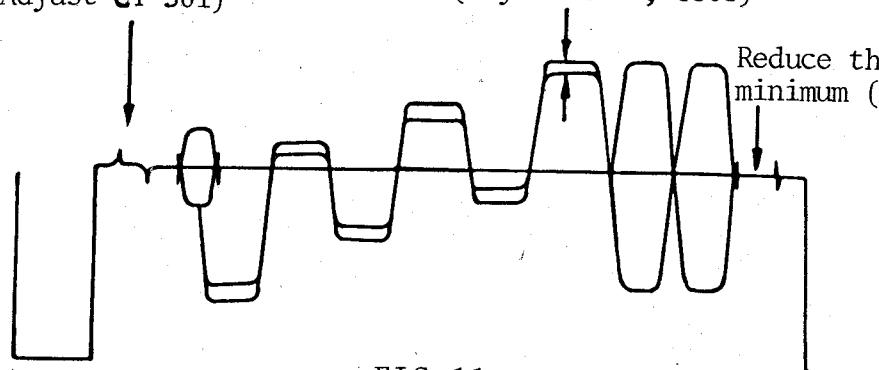

FIG.11
5. Adjust CT 301 to obtain the waveform as in FIG. 11.
6. Adjust T 302, T 303 and VR 301 to obtain the waveform as in FIG. 11.